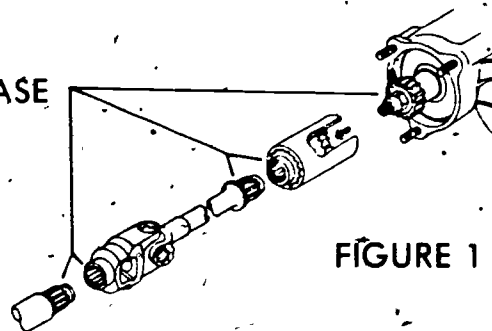

FIGURE 1
- A. Lubricate all drive shaft splines (Figure 1)